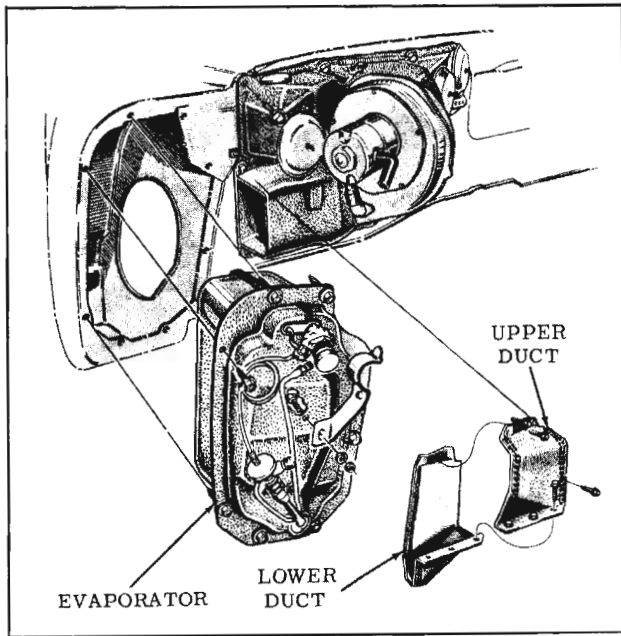

Fig. 15-56 Evaporator Removal
4. Remove six screws from evaporator to blower connecting duct, then remove upper section of duct. (Fig. 15-56)